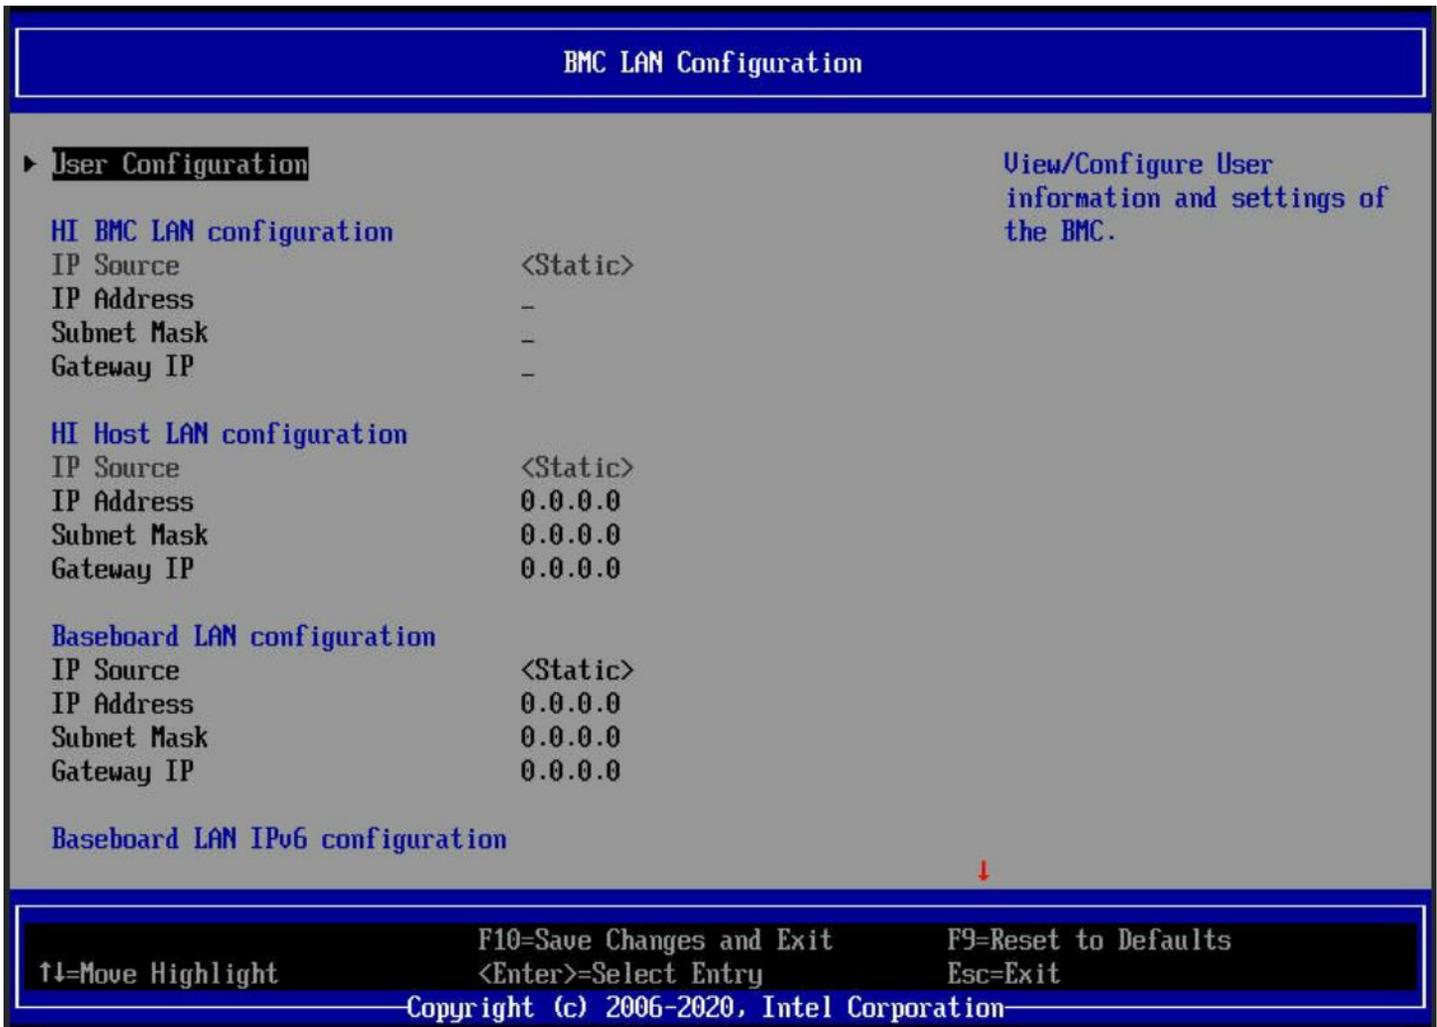
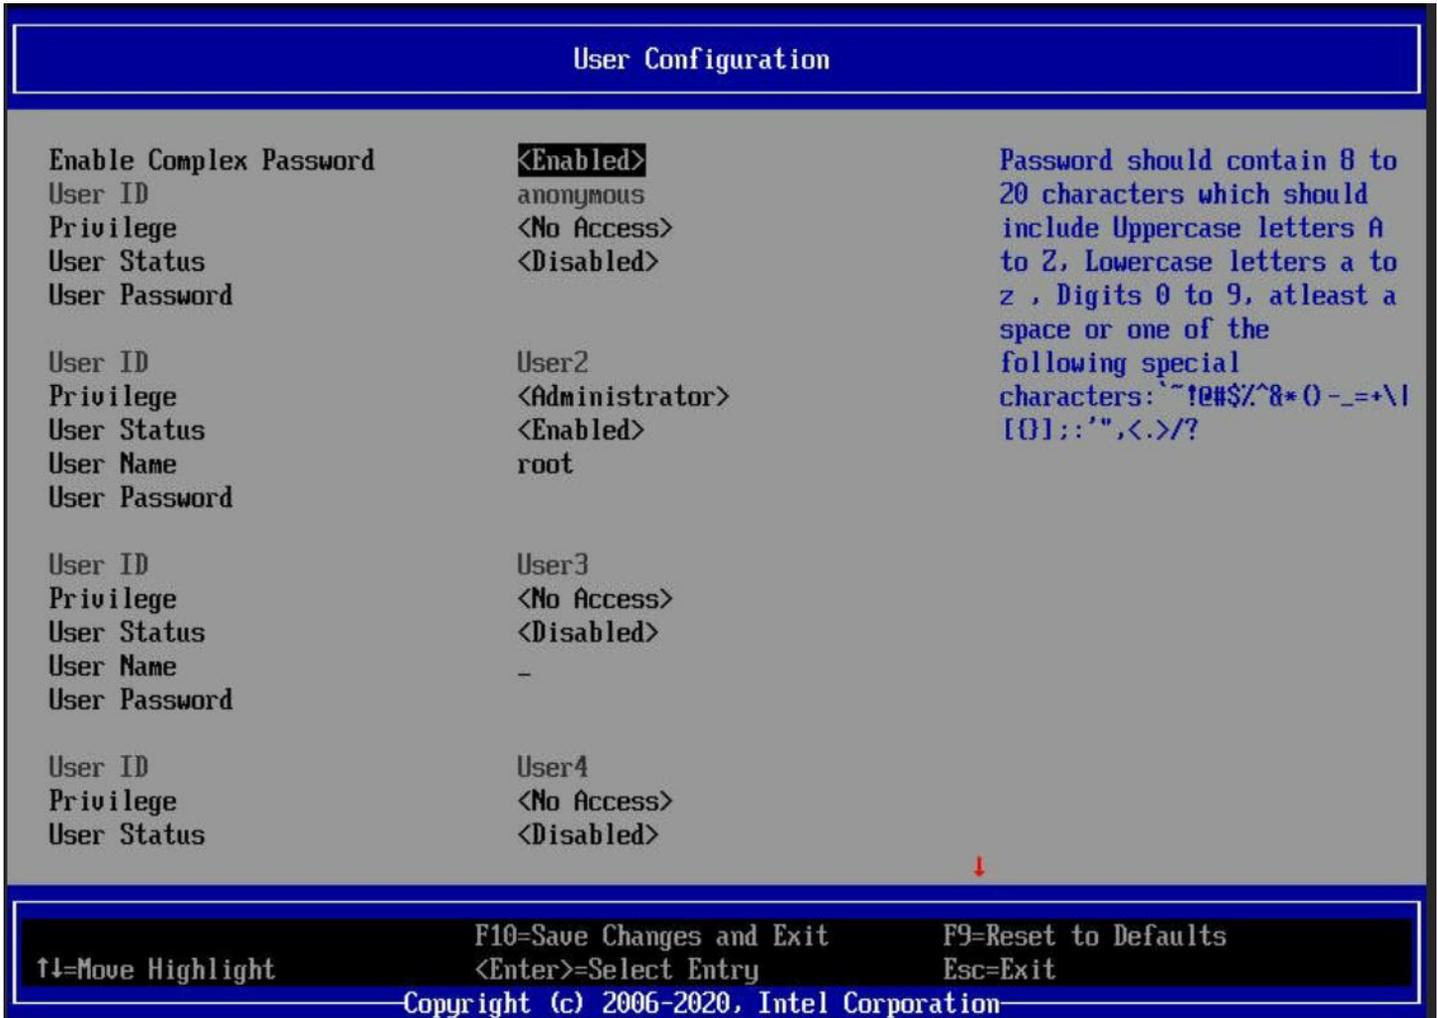

Figure 7. BIOS Setup BMC LAN Configuration Screen
Figure 8. BIOS Setup User Configuration Screen
2. Navigate to the **Server Management** tab and select **BMC LAN Configuration** to enter the BMC LAN Configuration screen (Figure 7).
3. For a Host Interface (HI) network:
6. Select **User Configuration** to enter the User Configuration screen (Figure 8).